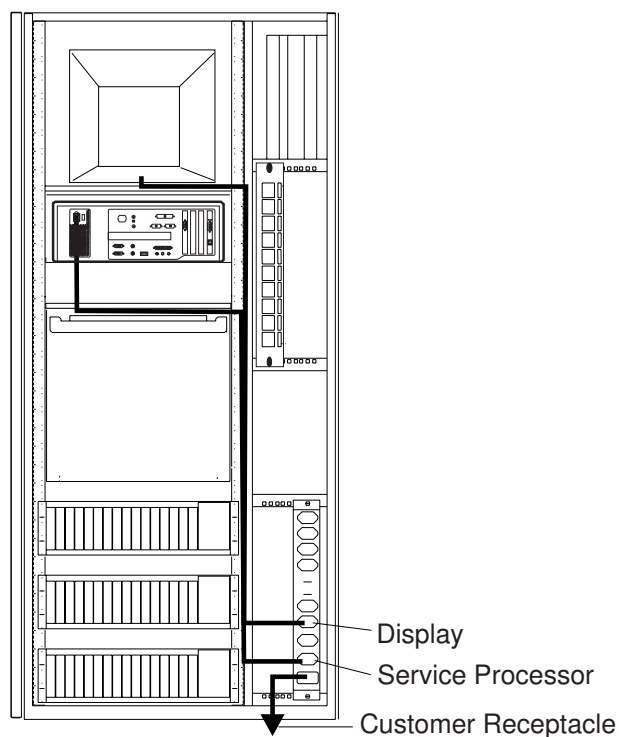

Figure 9. Power Cord Connections
- 15. Route and connect the power cords (PN 58G5783) from the display or Service Processor Unit to the ac outlet distribution box as shown in Figure 9. Secure these cables along the frame using tie clamps.